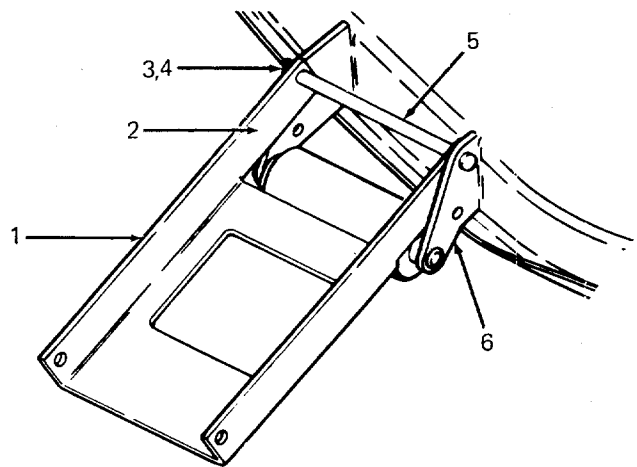

Figure 41
- Remove the front hanger bracket from the front roller bracket as follows: Remove hairpin cotter and flat washer, then remove the deck hanger rod. (Refer to Figure 41.)